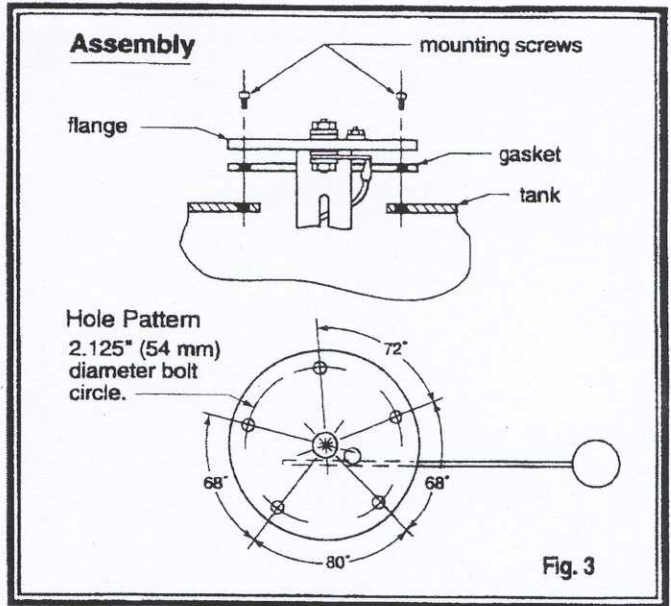

Fig. 3
V. Refer to Fig. 3 for installation of the fuel sender assembly into the tank. The sender flange is designed to fit a standard SAE hole pattern.